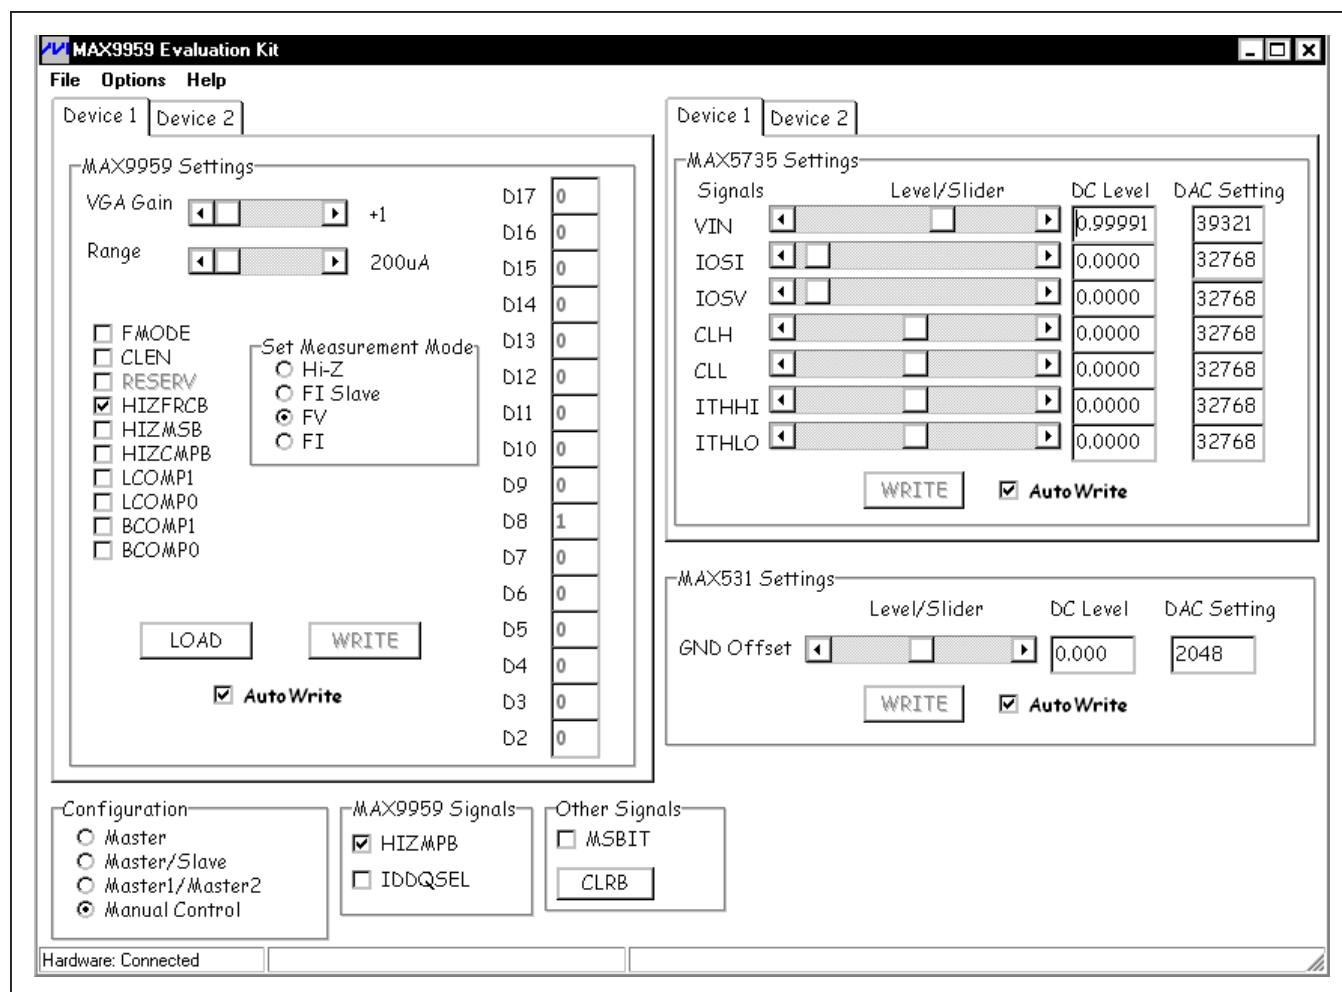

Figure 2. MAX9959 EV Kit Quick Start Settings
- 10) Check that the output voltage at DUT\_NODE\_M (P8) is close to +1V. Figure 2 shows the MAX9959 EV kit quick start settings.